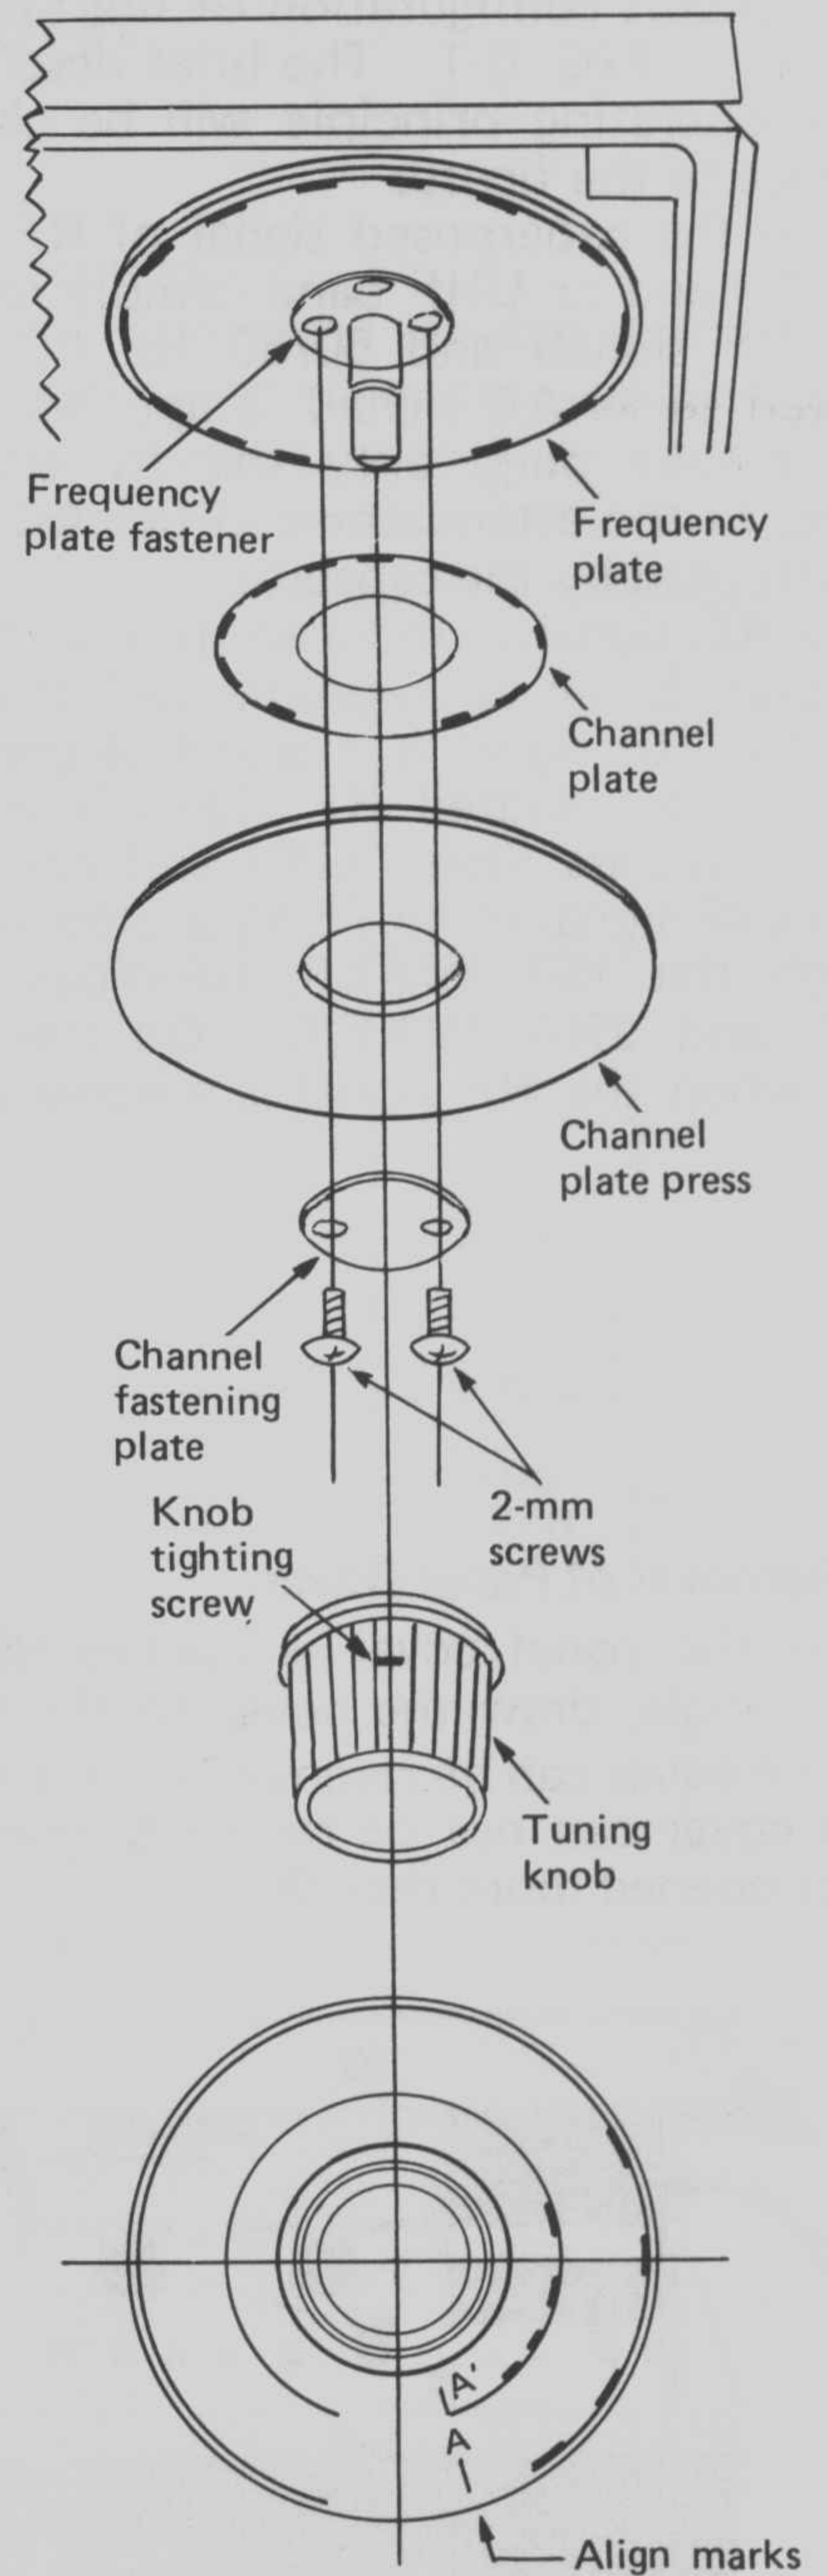

Fig. 7-4
- (1) Unscrew the fastening screw of the tuning knob using the hexagonal wrench (1.5-mm size) as an accessory, and remove the knob.
- (2) Removing two 2-mm screws which fasten the channel fastening plate results in disassembling the channel fastening plate.
- (3) Place the desired channel plate on the frequency plate. Align the point A and point A' shown in Fig. 7-4; place the channel plate press and channel fastening plate; and then fix the two screws.
- (4) Finally, install the tuning knob.